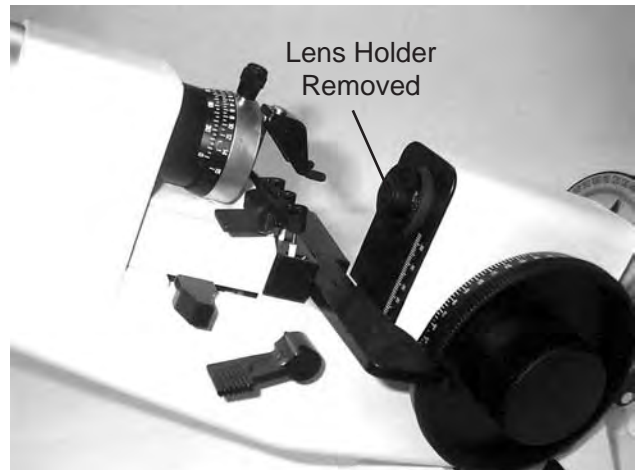

Figure IU-08 Spectacle Lens Holder Removed
1. Remove the spectacle Lens Holder. Refer to Figure IU-08.